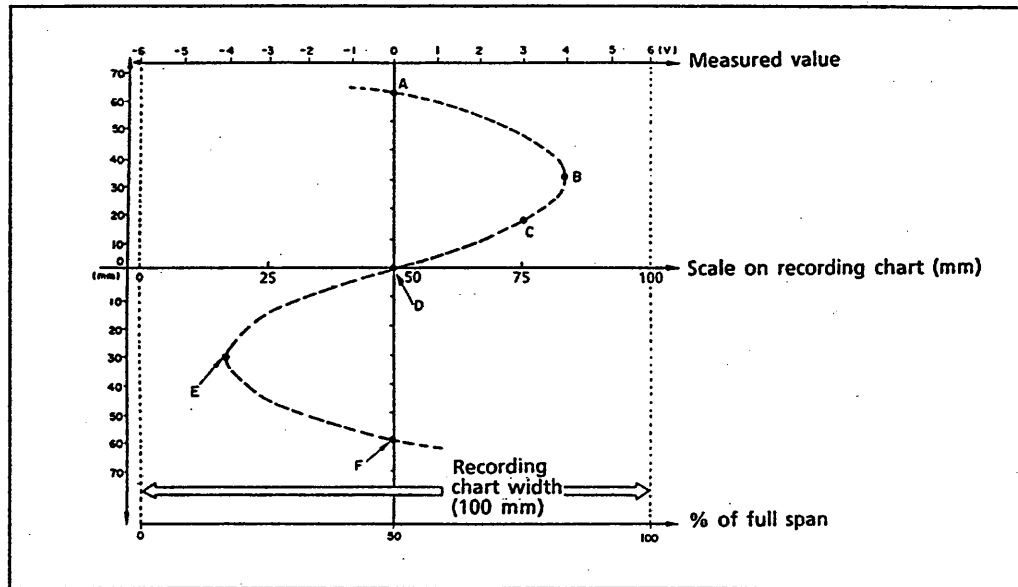

Figure 6.10.1
- Figure 6.10.1 shows normal recording with a 100mm span. Here the 0V point is positioned 50 mm (50% of span ) from the chart paper left margin.